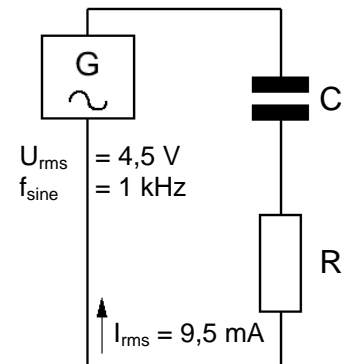

Fig. 15.2.4: RC series circuit
- The relationships in an RC series circuit Fig. 15.2.4 are to be measured. The phase angle  $\varphi$  between generator voltage and the voltage across the resistor ( $U_R$ ), is  $46^\circ$ .
- The results from calculations will now be checked in a practical exercise. Assemble the RC series circuit in Fig. 15.2.4 on the Electronic Circuits Board. Use the following components:  $R = 330 \Omega$ ,  $C = 0,47 \mu\text{F}$ . Set the function generator to:  $U_{\text{rms}} = 4,5 \text{ V}$  ( $f_{\text{sine}} = 1 \text{ kHz}$ ).